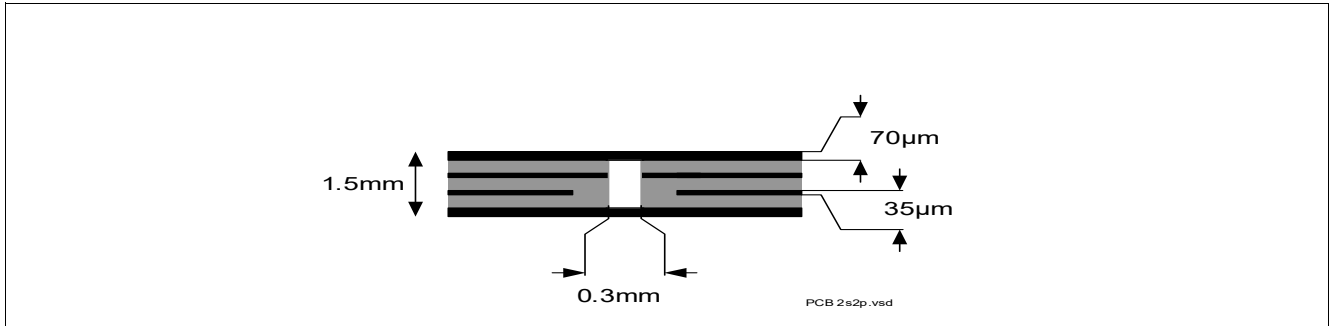

Figure 4 2s2p PCB Cross Section
2) Specified  $R_{thJA}$  value is according to JEDEC JESD51-2,-5,-7 at natural convection on FR4 2s2p board with 1 W power dissipation equally dissipated for both channel at  $T_A=105^\circ\text{C}$ ; The product (chip + package) was simulated on a 76.4 x 114.3 x 1.5 mm board with 2 inner copper layers (2 x 70  $\mu\text{m}$  Cu, 2 x 35  $\mu\text{m}$  Cu). Where applicable, a thermal via array under the exposed pad contacts the first inner copper layer. Please refer to Figure 4.